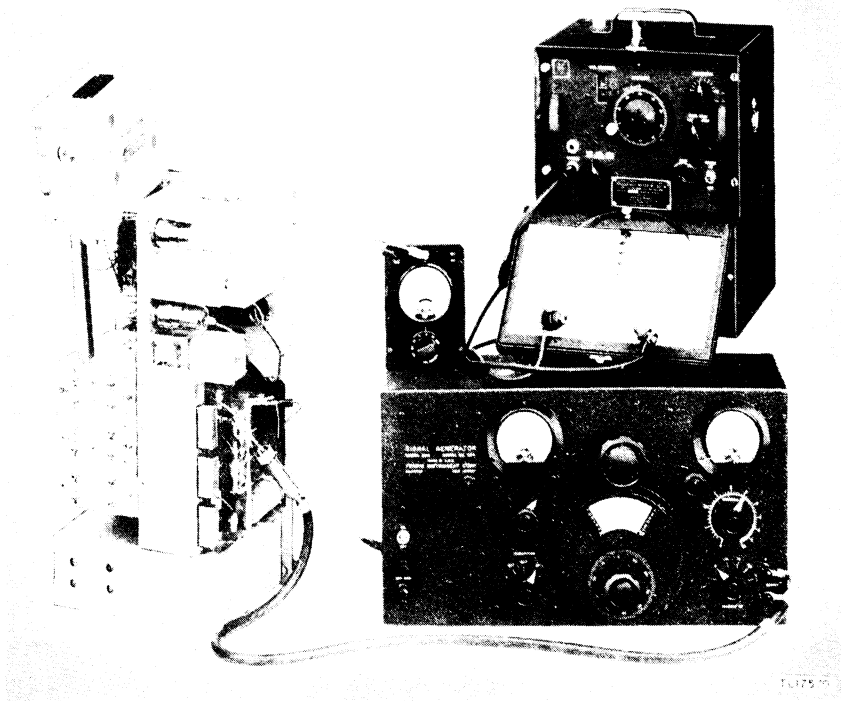
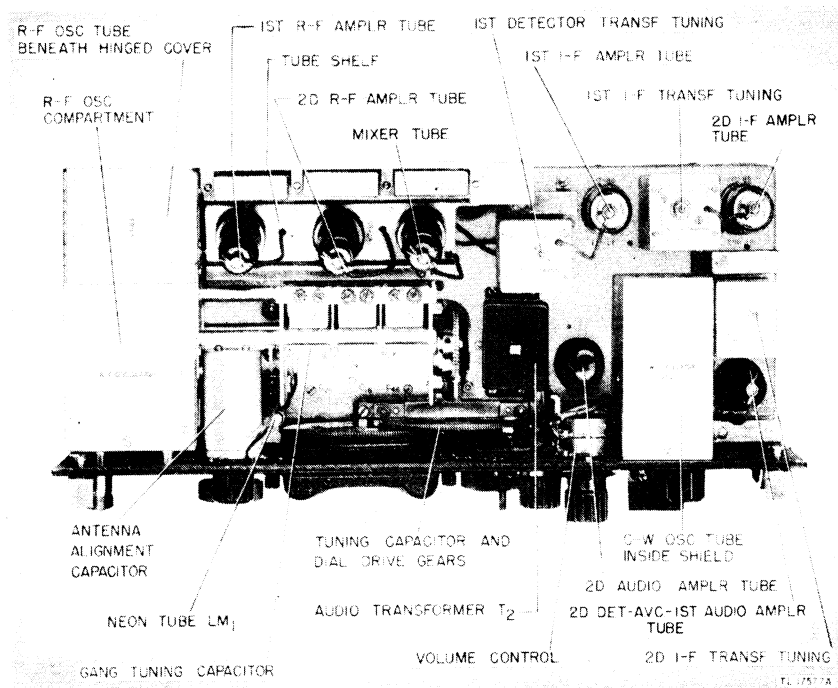

Figure 72. Typical test set up for receiver i-f alignment.
Figure 73. Receiver chassis, top view, showing alignment points.
a. PREPARATION. Set up the receiver and alignment equipment as shown in figure 72. Calibrate the signal generator for a 470-kc signal (h-f receiver models) or for a 92.5-kc signal (m-f receiver models). Remove the two screws from the top of the chassis that hold the dynamotor or rectifier in place. Remove the screw from the dynamotor or rectifier inner mounting hinge and swing the power supply assembly upward, securing it in position with a rack or a block of wood. Set the OFF-M.V.C.-A.V.C. switch to M.V.C., the CRYSTAL PHASING control to OUT (h-f models), the SELECT CONTROL at maximum (m-f models), the C.W.-OSC. switch to OFF, and the VOL control to maximum. Loosen the i-f transformer screw locknuts.
b. PROCEDURE. (1) Attach the signal generator ground lead to the receiver chassis and connect the dummy antenna (300-ohm resistor) between the grid cap of the second i-f amplifier tube and the output lead from the signal generator.
(2) Connect the output meter to the PHONES 2D AUDIO jack and adjust the signal generator output (modulated) to give a small deflection on the output meter, using the smallest scale possible.
(3) Adjust the second i-f transformer adjustment screws located on the top and bottom of the transformer (figs. 73 and 74) for a maximum output indication. Reduce the signal generator output whenever necessary during alignment to avoid overloading the receiver.
a. PREPARATION. Set up the receiver and alignment equipment as shown in figure 72. Remove the two screws from the top of the chassis that hold the dynamotor or rectifier in place. Remove the screw from the dynamotor or rectifier inner mounting hinge and swing the power supply assembly upward, securing it in position with a rack or a block of wood. Set the OFF-M.V.C.-A.V.C. switch to M.V.C., the SELECT CONTROL to maximum, the C.W.-OSC. switch to OFF, and the VOL control to maximum. Loosen the i-f transformer screw locknuts.
b. PROCEDURE. (1) Turn on the signal generator and the frequency meter and allow at least 15 minutes for them to warm up to insure frequency stability.
(2) Set the receiver tuning dial to any frequency on any band. For example: 200 kc.
(3) Plug the headset into the frequency meter and insert the end of a lead from the antenna post on the frequency meter into the receiver oscillator compartment (open hinged cover). Lay
(4) Tune the frequency meter to 92.5 kc above the frequency at which the receiver dial is set (200 + 92.5 or 292.5 kc if receiver is set at 200 kc). Then slowly tune the frequency meter dial back and forth, about 15 kc, until zero beat is heard in the headset.
(5) When zero beat is heard, check the frequency at which the frequency meter is set. If the frequency is not 92.5 kc above the frequency at which the receiver dial is set, adjust the receiver oscillator trimmer in small steps until a zero beat is heard in the frequency meter headset at *exactly* 92.5 kc above the receiver dial setting.
(6) When the r-f oscillator trimmer is finally adjusted to the desired frequency, tighten the locknut on this adjustment so that it cannot change. Disconnect the frequency meter but do not change the receiver dial setting.
(7) Calibrate the signal generator for the frequency at which the receiver dial is set (par. 83) and connect the output of the generator to the receiver antenna binding post through a 250- μmf capacitor dummy antenna. Connect the output meter to the PHONES 2D AUDIO jack.
(8) With the signal generator frequency set in accordance with instructions in (7) above, and with the generator output 30-percent modulated at 400 cycles, adjust each i-f adjustment screw to obtain a maximum output indication on the output meter. Adjust the second i-f transformer first, then the first i-f transformer, and finally the mixer transformer. Repeat adjustments if necessary to obtain a maximum output indication.
(9) With the r-f oscillator and i-f stages adjusted properly, the r-f amplifier stages should be aligned as described in paragraph 88 below.
a. PREPARATION. Set up the equipment as for the i-f alignment (fig. 72). Calibrate the signal generator for a 470-kc signal (h-f model) or for a 92.5-kc signal (m-f model). If a signal generator capable of producing a 92.5-kc signal is not available, proceed as outlined in paragraph 85 above to obtain the required intermediate frequency. Set the OFF-M.V.C.-A.V.C. switch to M.V.C. or A.V.C., and the C.W.-OSC. switch to ON. Turn the C.W.-OSC. ADJUST control so that the arrow is horizontal, pointing toward the right. Remove the capscrew above the C.W.-OSC. switch, permitting access to the c-w oscillator adjustment screw. Plug a headset or loudspeaker into the receiver output jack.
b. PROCEDURE. (1) Attach the signal generator ground lead to
a. PREPARATION. Set up the equipment the same as for the i-f stage alignment. (See fig. 72.) Calibrate the signal generator for a 470-kc signal. Set the OFF-M.V.C.-A.V.C. switch to M.V.C. and the C.W.-OSC. switch to ON. Connect a headset or loudspeaker and an output meter to the receiver output.
b. PROCEDURE. (1) Attach the ground lead of the signal generator to the receiver chassis and connect the signal generator